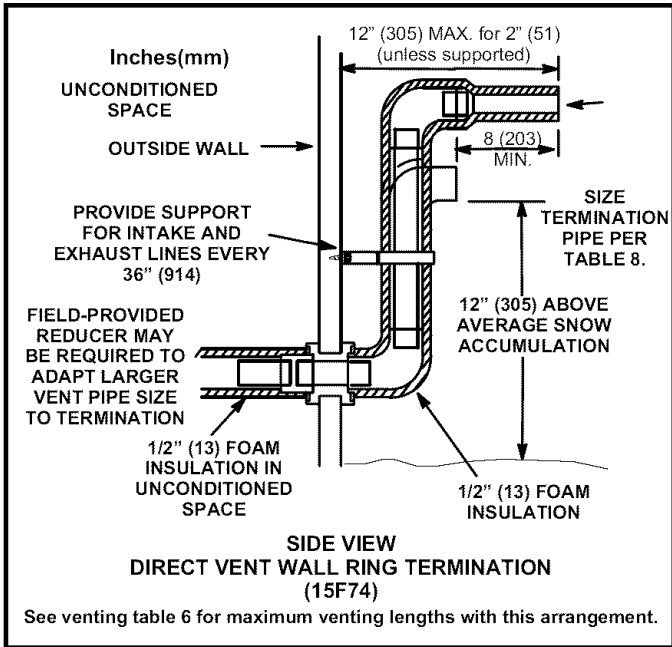

FIGURE 38
- 8 - If intake and exhaust piping must be run up a side wall to position above snow accumulation or other obstructions, piping must be supported every 3 ft. (.9m) as shown in figure 26. Refer to figure 38 for proper piping method. In addition, WTK wall termination kit must be extended for use in this application. See figure 41. When exhaust and intake piping must be run up an outside wall, the exhaust piping is reduced to 1-1/2" (38mm) after the final elbow. The intake piping may be equipped with a 90° elbow turndown. Using turndown will add 5 feet (1.5m) to the equivalent length of the pipe.